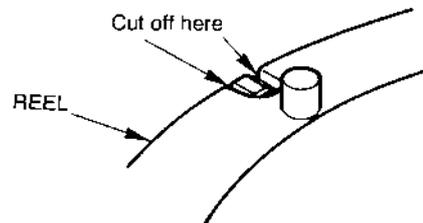

Fig. 72
(1) Cut off a part of the reel shown in Fig. 72 with a nippers or a knife to form a which is required when pre-winding the spring.